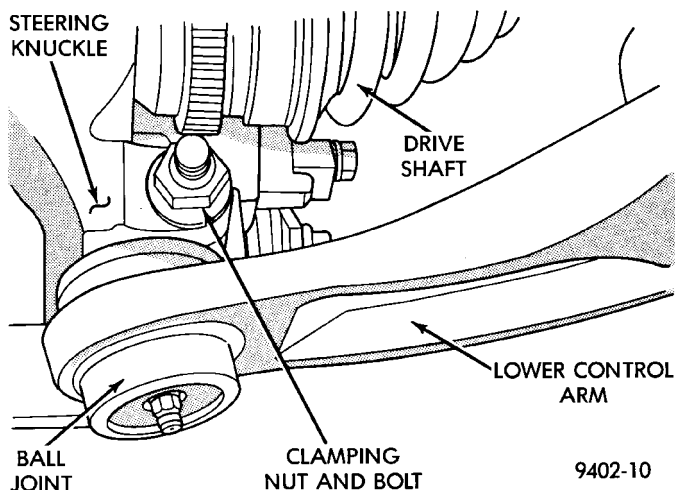

Fig. 22 Steering Knuckle To Ball Joint Clamp Bolt from steering knuckle, so ball joint seal does not get cut.
(11) Remove nut and bolt (Fig. 22), clamping ball joint stud, from steering knuckle.
(4) Install a **NEW** steering knuckle to ball joint stud, clamp bolt and nut (Fig. 22). Torque the clamp bolt to 100 N·m (75 ft. lbs.).